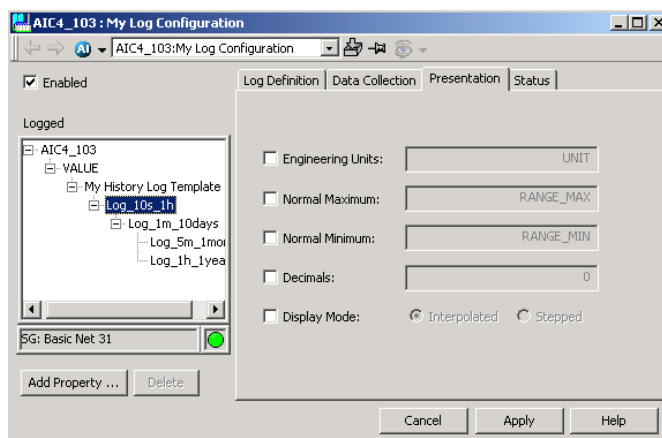

Figure 267. Log Configuration
10. The **Logged Properties** area will look like Figure 267.